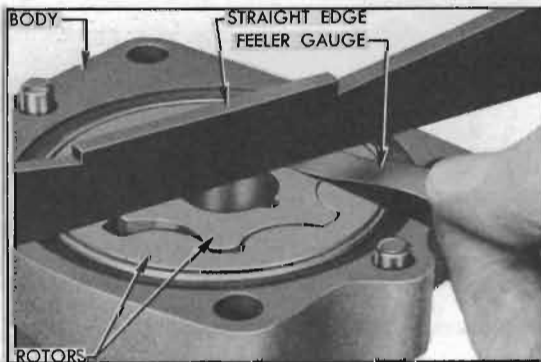

Figure 7-46—Checking Side Clearance of Rotors in Pump Body
4. Using straight edge and feeler gauges, check side clearance of rotors in pump body. See figure 7-46. If side clearance exceeds .0025" replace pump body.